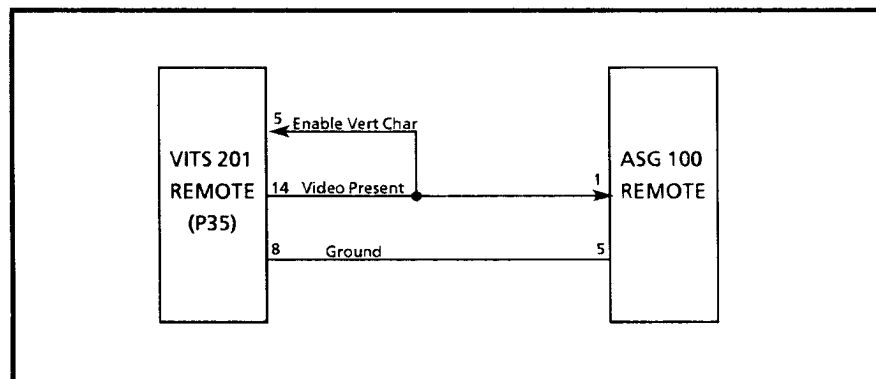

Figure 3-11. Connections to ASG 100 for Video clapboard.
6. Connect the VITS 201 and ASG 100 remote connectors as shown in Figure 3-11.